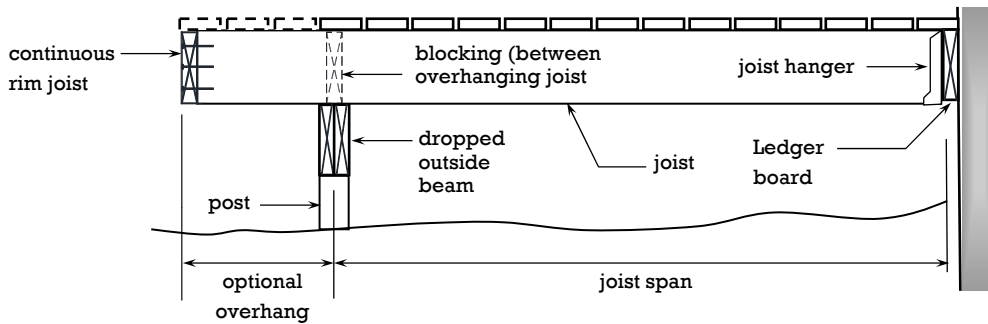
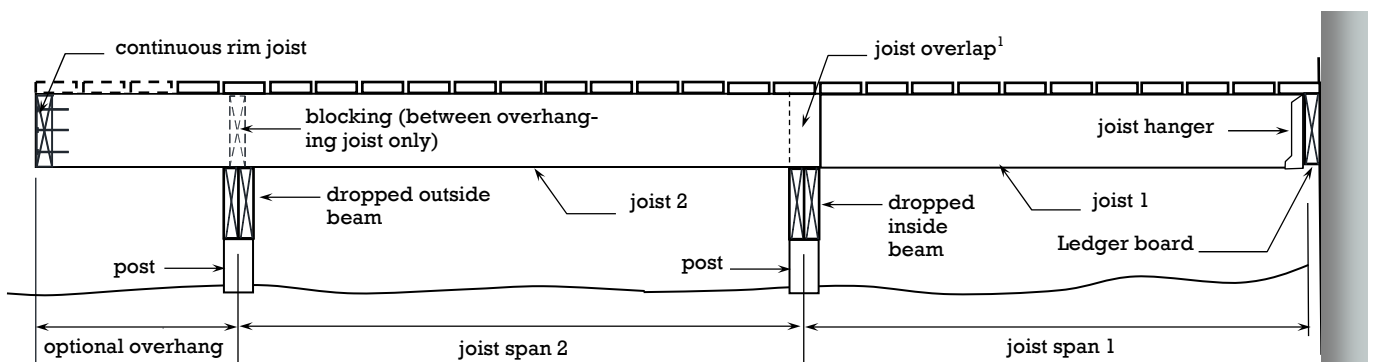
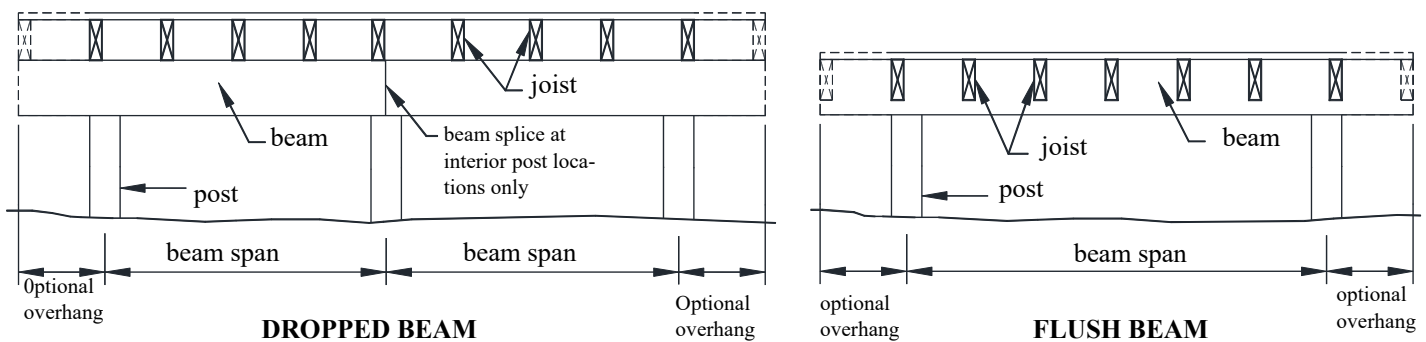

FIGURE 3: SINGLE SPAN DECK - JOISTS ATTACHED AT HOUSE WITH DROPPED BEAM
FIGURE 5: MULTI-SPAN DECK - JOISTS WITH DROPPED BEAMS
Figure 11: Beam Types
- Single span decks are framed with joists that have one span between supports (not including overhang) as shown in FIGURES 3 and 4. Multi-span decks have joists with more than one span which bear on multiple beam as shown in FIGURES 5 and 6.
- Attach a continuous rim joist or blocking at the joist ends as shown in FIGURES 3, 5 and 7. Attach a rim joist to the end of each joist with (3) 10d nails or (3) #10 by 3-inch wood screws.
- Dropped beams have joists bearing above; flush beams have joists with hangers bearing on its sides; see FIGURES 3 through 7 and FIGURE 11.
- Beam span length, as shown in FIGURE 11, is measured between the centerlines of two adjacent posts and does not include the beam overhangs.